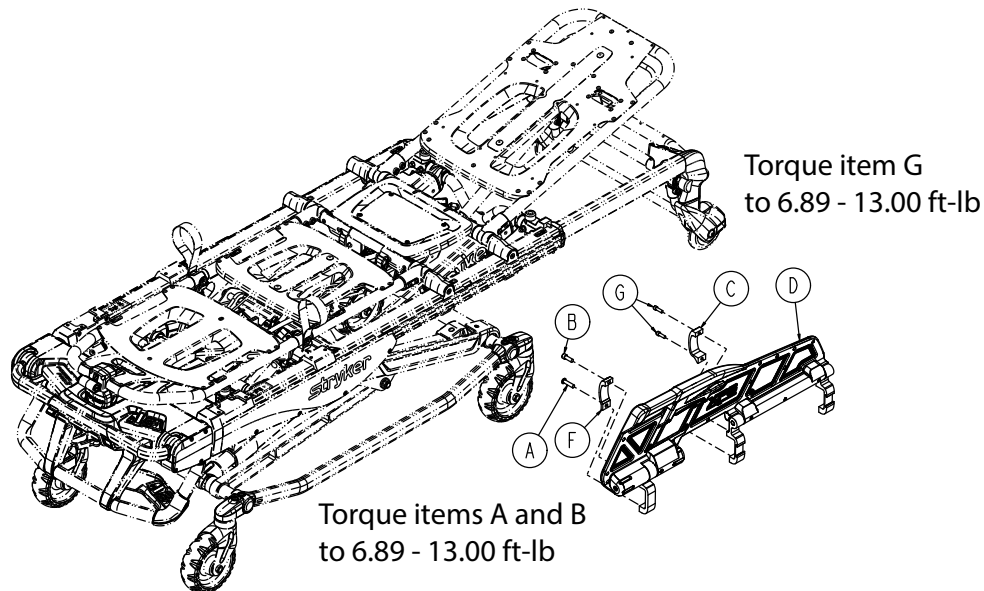

Figure 48 – Replace the XPS siderail
- Using a 3/16" hex wrench, remove the hex socket button head cap screw (A), socket head cap screw (B) and XPS inner bracket (F) that secure the ratchet assembly at the foot end of the main assembly (Figure 48). Save the screws and bracket.
- Using a 3/16" hex wrench, remove the two socket head cap screws (G) that secure the siderail clamp (C) to the outer rail assembly (Figure 48). Save the screws and clamp.
- Remove and discard the XPS assembly (D) (Figure 48).